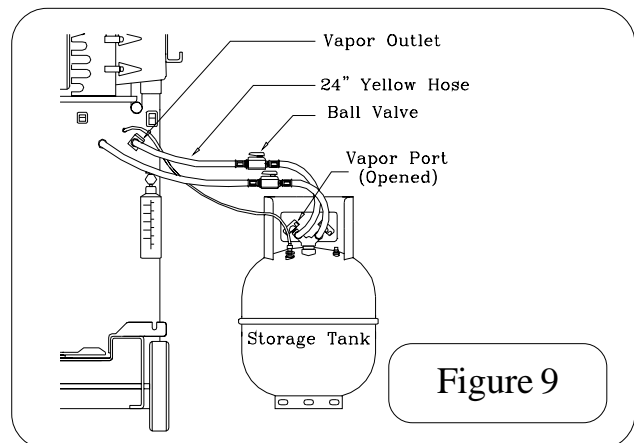

Figure 9
5. Open ball valve on 24" yellow hose connecting the vapor outlet on the back of the unit to the storage tank's vapor port for the R-12 side. (Refer to Figure 9).